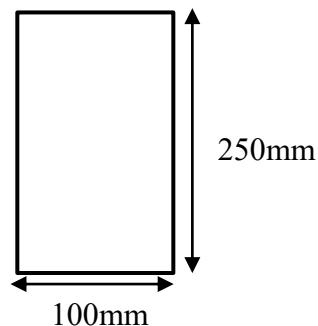

Figure B3(b) / Rajah B3(b)
- (b) Calculate the shear stress at 30mm distance from neutral axis at rectangular beam in Figure B3(b) below. Given shear force is 45kN.